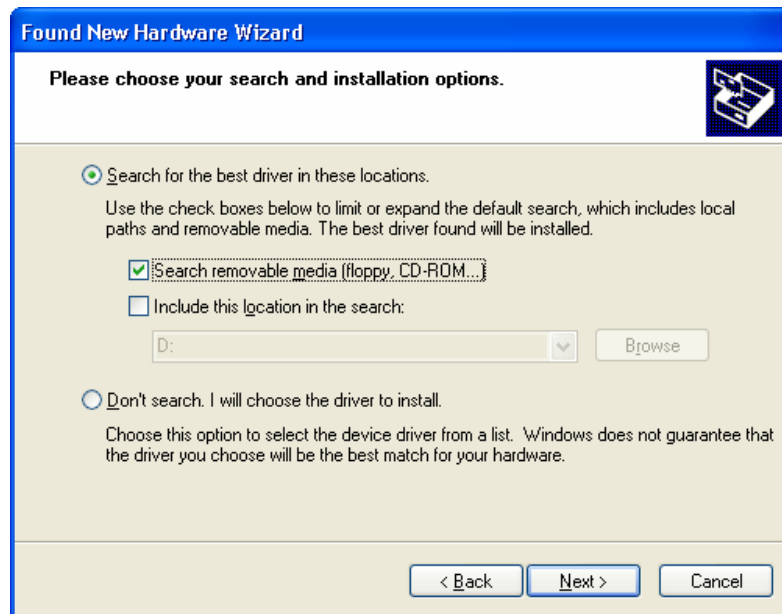

Figure 3. Found New Hardware Wizard Window #3
7. At the “Found New Hardware Wizard” window (Figure 3), select “Search for the best driver in these locations” followed by “Search removable media (floppy, CD-ROM...)”. Click Next.